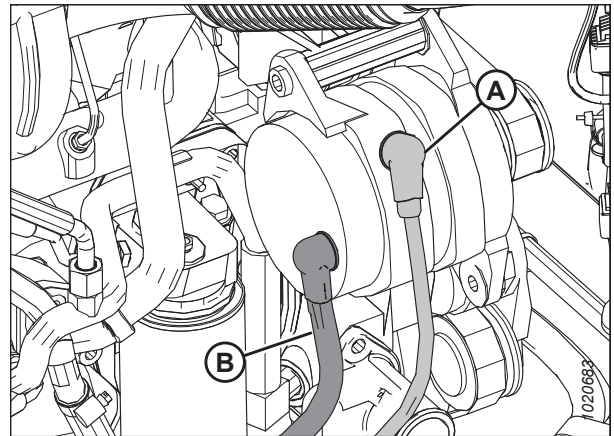

Figure 5.32: Alternator
- Do **NOT** short across battery or alternator terminals or allow battery positive (+) cable (B) or alternator wire to become grounded.
- If wires are disconnected from the alternator, refer to Figure 5.32, page 341 to ensure proper connection.